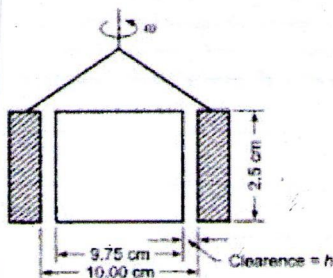

Fig. 1.8
- 1.13 Two coaxial cylinders 10 cm and 9.75 cm in diameter and 2.5 cm high have both their ends open and have a viscous liquid filled in between. A torque of 1.2 N.m is produced on the inner cylinder when the outer one rotates at 90 rpm. Determine the coefficient of viscosity of the liquid (Refer Fig 1.8).